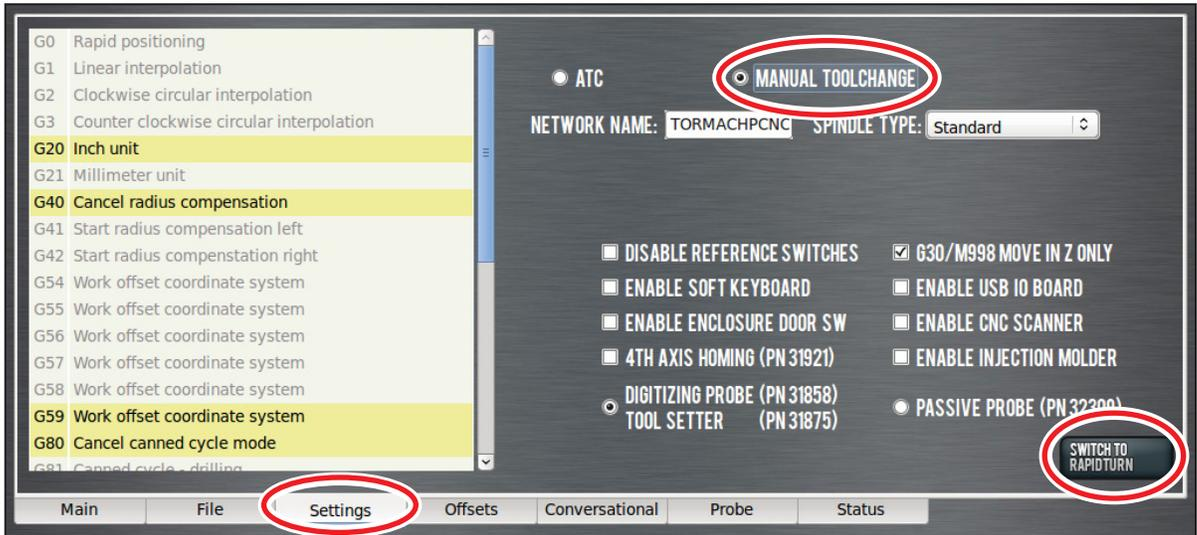

Figure 2.2
2. In the PathPilot® interface, click *Manual Tool Change* on the *Settings* tab (see Figure 2.2).
3. Click *Switch to RapidTurn* (see Figure 2.2). This closes mill's PathPilot interface and opens RapidTurn's PathPilot interface. For more information on switching from mill operation to RapidTurn operation, refer to chapter 3, *Operation*.